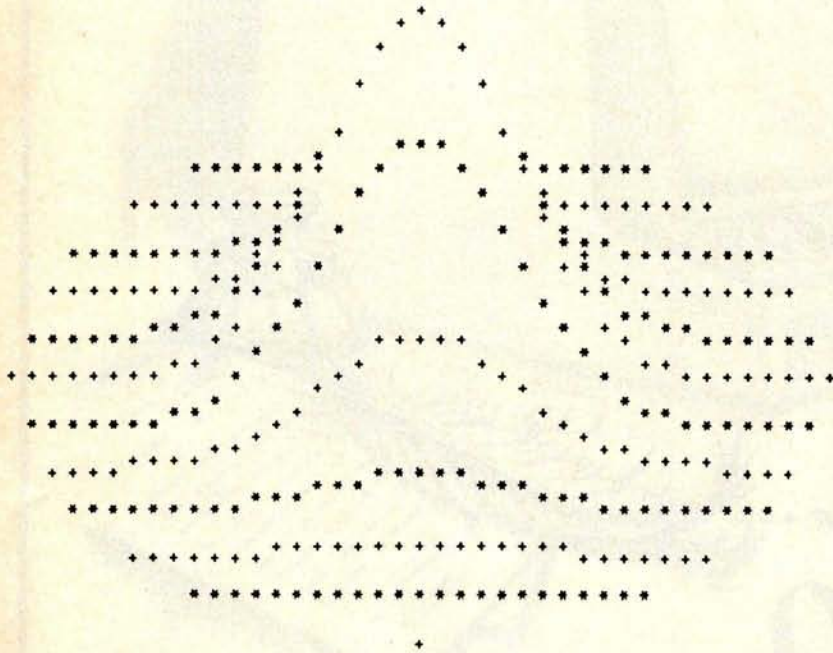
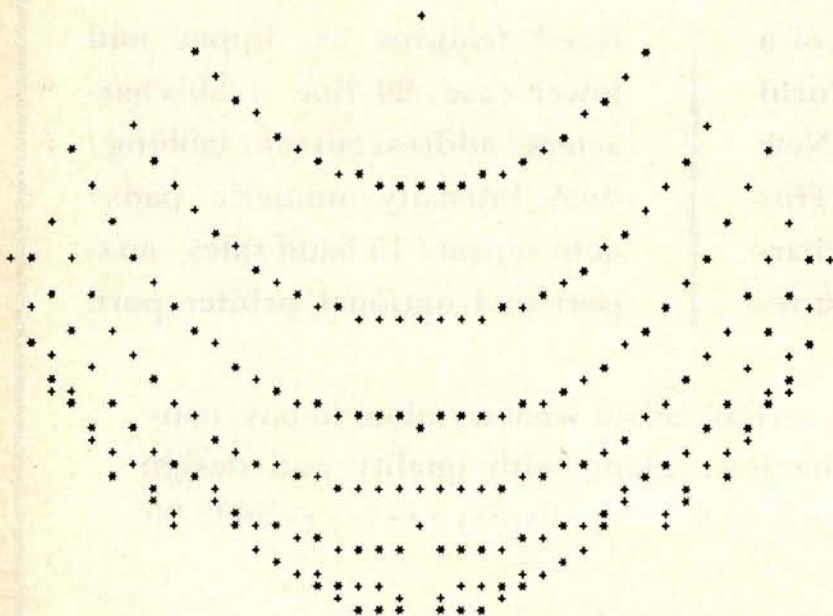

Figure 1: Plot of  $Z = -30 * \text{EXP}(-f(x,y)^2 / 100)$
Figure 2: Plot of  $Z = .001 * (f(x,y)^3 + f(x,y) - 25)$
To change the plotted equation, redefine function A (called FNA in the program) in line 60. Figure 1 shows the plot of the equation given in the program. Figures 2, 3, and 4 show different functions and their corresponding plots. Note that all figures have been rotated left by 90 degrees from the way they are actually printed. ■
Figure 1: Interface circuitry for GRAPH. An astable multivibrator (IC2) provides the pulse train for a hardware repeat function. The authors' keyboard produces a low to high transition strobe (STB) pulse when a key is pressed. This is used to trigger a monostable multivibrator to provide a single pulse keypressed (KP) signal to interface with the IO board used.
The circuit in figure 1 uses a 555 timer (IC2) to generate the repeat pulse train and apply it to the keypressed line. Notice that it is important to gate the pulse train with the original keypressed STROBE DC level from the character generator line so that the oscillator will operate only when a character key is pressed. Otherwise, invalid data will
Another handy circuit is contained in figure 1 (lower lefthand corner). Most keyboards presently available provide a low to high strobe transition to indicate a key is pressed. Many IO boards, however, require a single pulse to latch the valid data. This portion of the circuit in figure 1 converts a DC strobe level to a single pulse output.
Figure 2: Visualization of line starting and ending addresses in GRAPH. This type of information is helpful in understanding the subroutines that check for valid screen addresses. The Processor Technology VDM-1 displays 16 lines of 64 characters per line which reside in 1 K bytes of programmable memory.
Data from any register can be moved to the screen with a MOV M, X (whose X is any register) instruction. The position on the screen is determined by the 16 digit number in the H, L register pair, which in this case would be between hexadecimal CC00 (first screen position) and CFFF (last screen position). Allocations of the starting and ending line addresses, as well as the first invalid address on either side of the screen, are shown in figure 2.